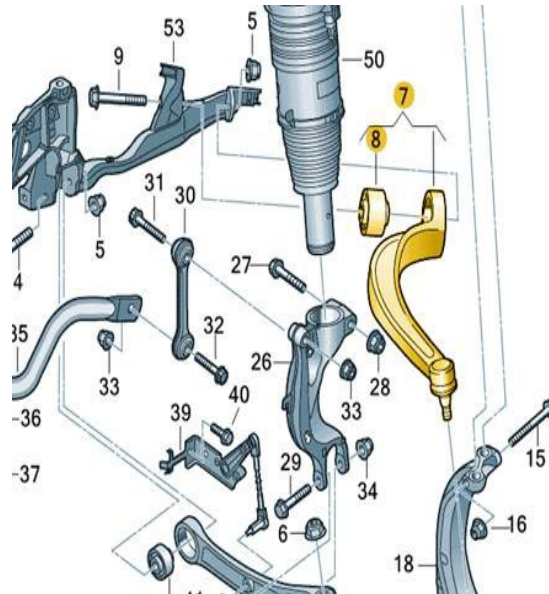

Figure 1. Hydro-bush.
The noises can be generated on the lower-left guide in the area of the hydro-bushing. (Figure 1, Positions 7 and 8).
1. Replace the hydro-bushing on the guide link in pairs (Figure 1, Position 8) according to the instructions in Elsa at Repair Manual, *Chassis >> Suspension, Wheels, Steering >> 40 Front Axle >> Lower Control Arm and Ball Joint >> Guide link bonded rubber bushing, Removing and Installing.*
3. If repeat repairs are necessary and the hydro-bushing has already been replaced (pressed out/in), the complete guide link has to be replaced (Figure 1, Position 7) in Elsa at Repair Manual, *Chassis >> Suspension, Wheels, Steering >> 40 Front Axle >> Lower Control Arm and Ball Joint >> Guide Link, Removing and Installing.*